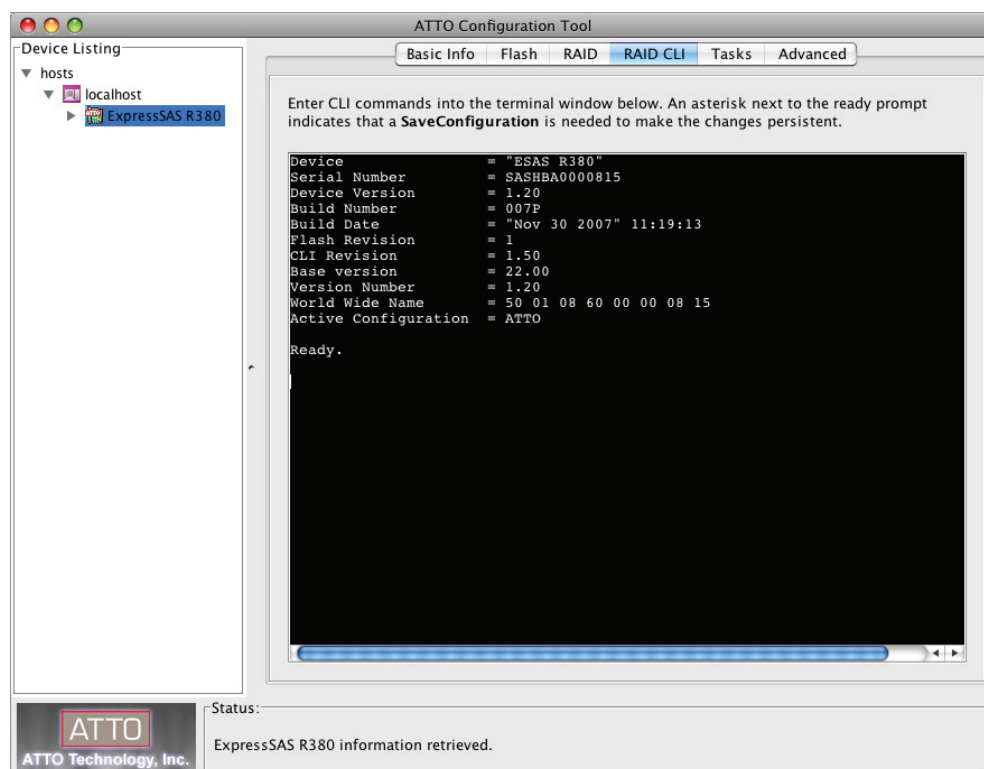

Figure 5
- The **RAID CLI** tab provides access to the command line interface, which, as an alternative to application menu-based commands, enables the use of ASCII-based commands to control configuration and diagnostic tasks. See **Figure 5** on page 5.